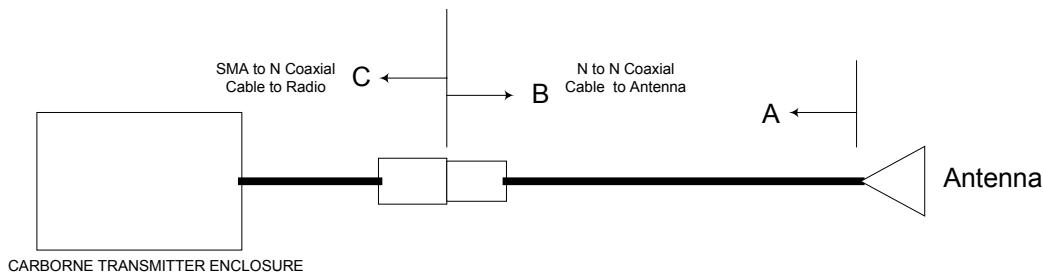

Figure 6-1 - Carbone Power Measurements
1. RF coaxial cable tests - this test will be performed using the Anritsu Site Master 251C Antenna & Cable Analyzer. The Anritsu 251C will be used to measure power output at point "A". This reading will be recorded in the CRE Power Output column of the Test Record Form in Annex TR and, together with antenna gain, will be used to determine compliance with the RF output power requirement. The Anritsu 251C will also be used to measure reflected power in the cable system between the lightning arrestor to the antenna ("B" to "C"). This reading will be recorded in the Cable Reflected Power Loss column of the Test Record Form in Annex TR. These tests will be as per Figure 6.1 below: